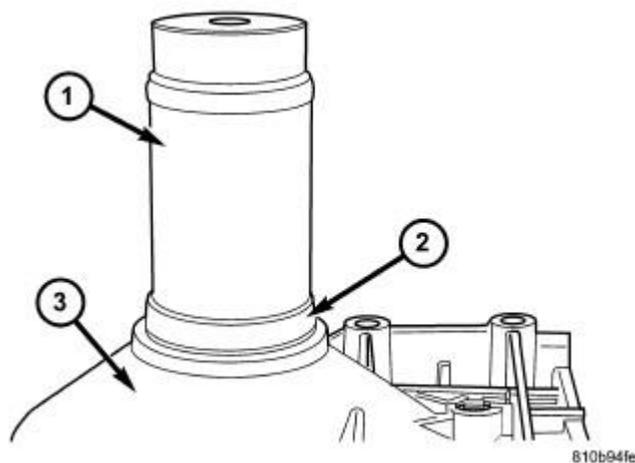

Fig. 79: Installing Output Shaft Bearing
27. Install output shaft bearing (2) in rear transmission housing. Using Bearing Installer (special tool #9287, Installer, Bearing) (1), install the output shaft bearing (2) into the transmission housing. Refer to **Fig. 79**. **The closed side of the plastic cage must point towards the parking lock gear.**